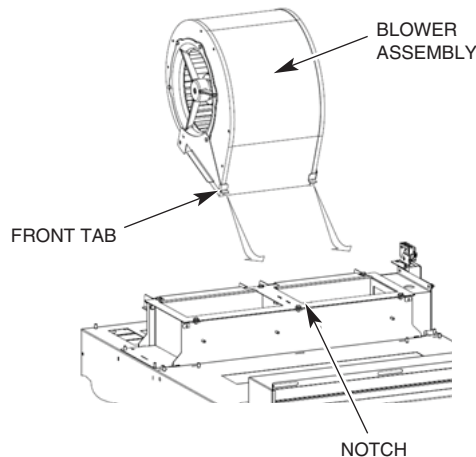

Fig. 22
2. Install one of the blower assemblies on top of the heater housing by lowering the blower assembly on an angle so that the front tabs hook underneath the notches on the top plate of the heater housing (Fig. 22 and 23).